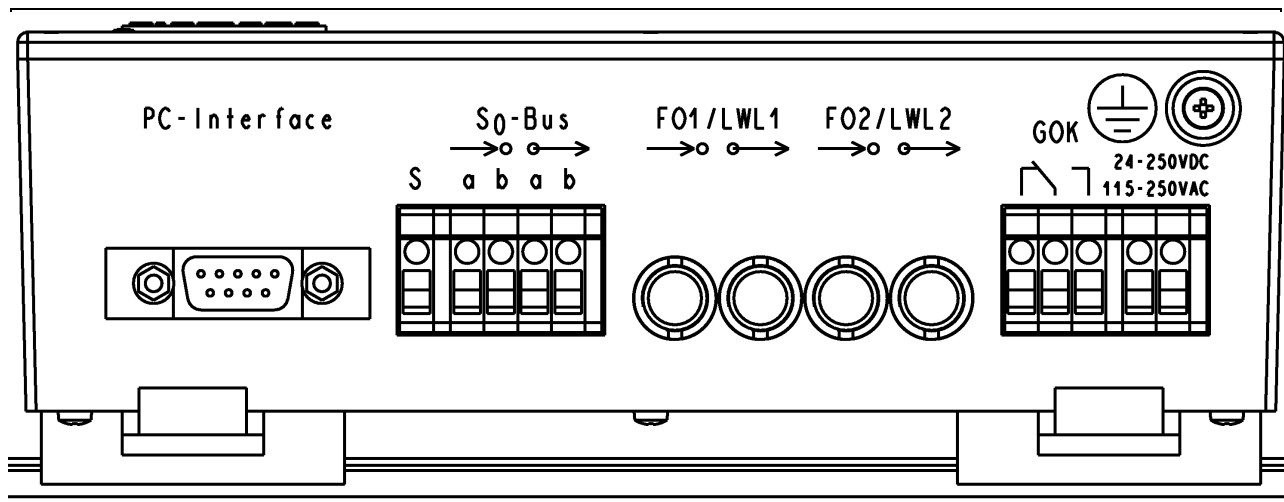

Figure 22 Interfaces and connections
The following interfaces and connections are located on the device side (Figure 22):
- Insert the cable with the socket into the DSUB-connector X.21 of the CC-S0. In the figure 22 you can see where the interface connector is located. The figure 25 shows the connection assignment on the DEE connection of the CC-S0s.
- The alarm relay (DR) contact can be connected as a NO contact or as a NC contact. The NO contact is normally appropriate, so that the contact opens if the auxiliary voltage fails.